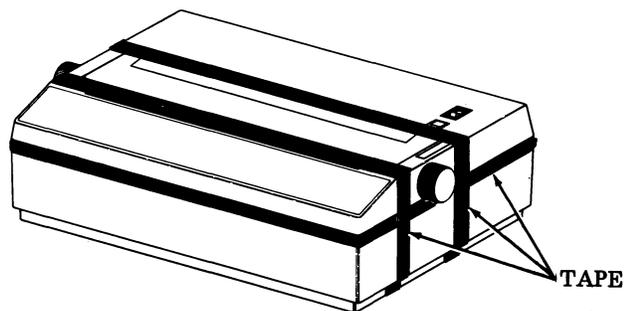

Fig. 4
3.08 Remove tape from the cover assembly. See Fig. 4.